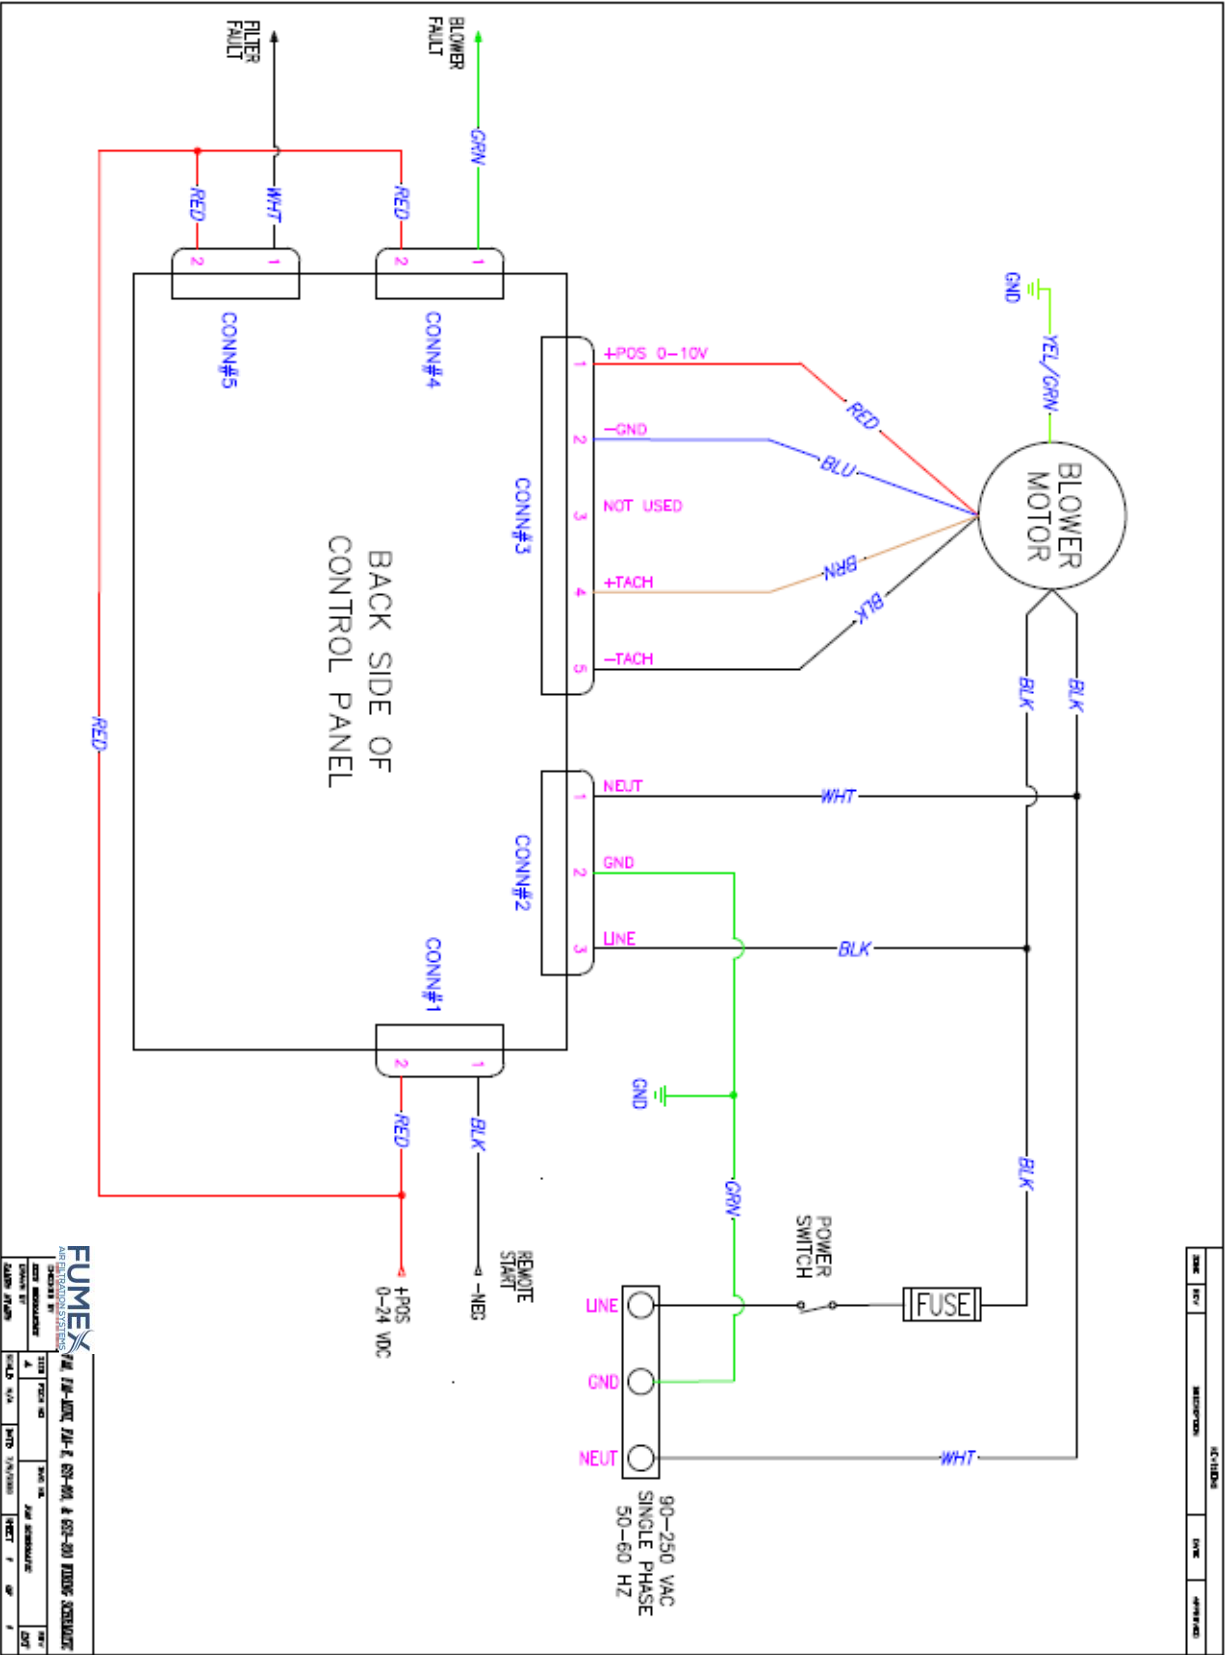

Figure 1
The GS1-100 unit can be supplied with an optional interface package providing remote start/stop and filter monitoring capabilities (Part # FA228). Please see instructions below for Relay Activation/De-Activation procedures and refer to the drawing in Figure 1 for remote connections.
7. Remove the flash drive and apply 0-24 VDC to the start relay according to the wiring diagram in Figure 1 to start the unit.